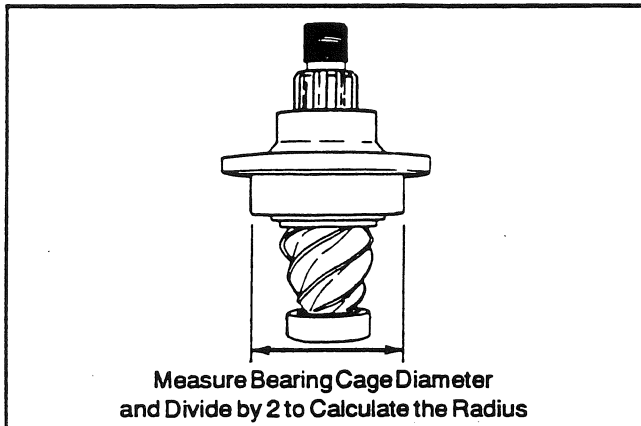

Fig. 37
- See Fig. 37 and note the radius dimension of your model final drive bearing cage.